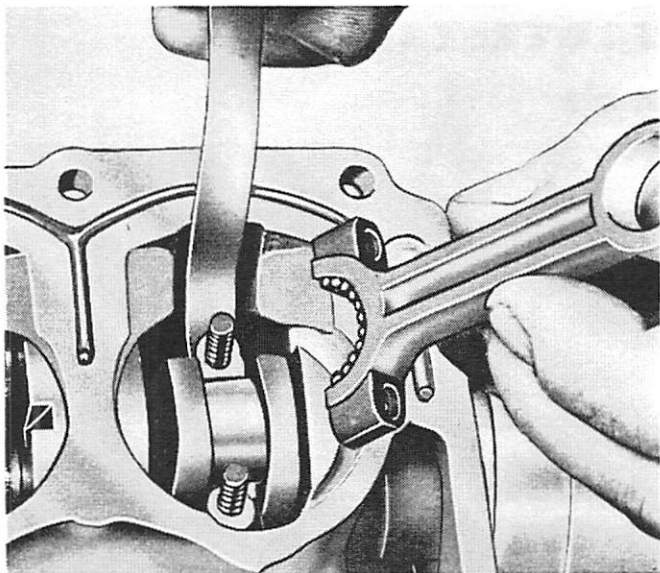

Figure 5. Removing (and Installing) Connecting Rods
1. Remove hexagon head nuts, which hold connecting rod bearing race together, with 5/16" 6-point socket, 1/4" drive. Hold bottom cap with Connecting Rod Cap Holder (91-24281). Pull upper half of connecting rod free, being careful of roller bearings. (Figure 5)